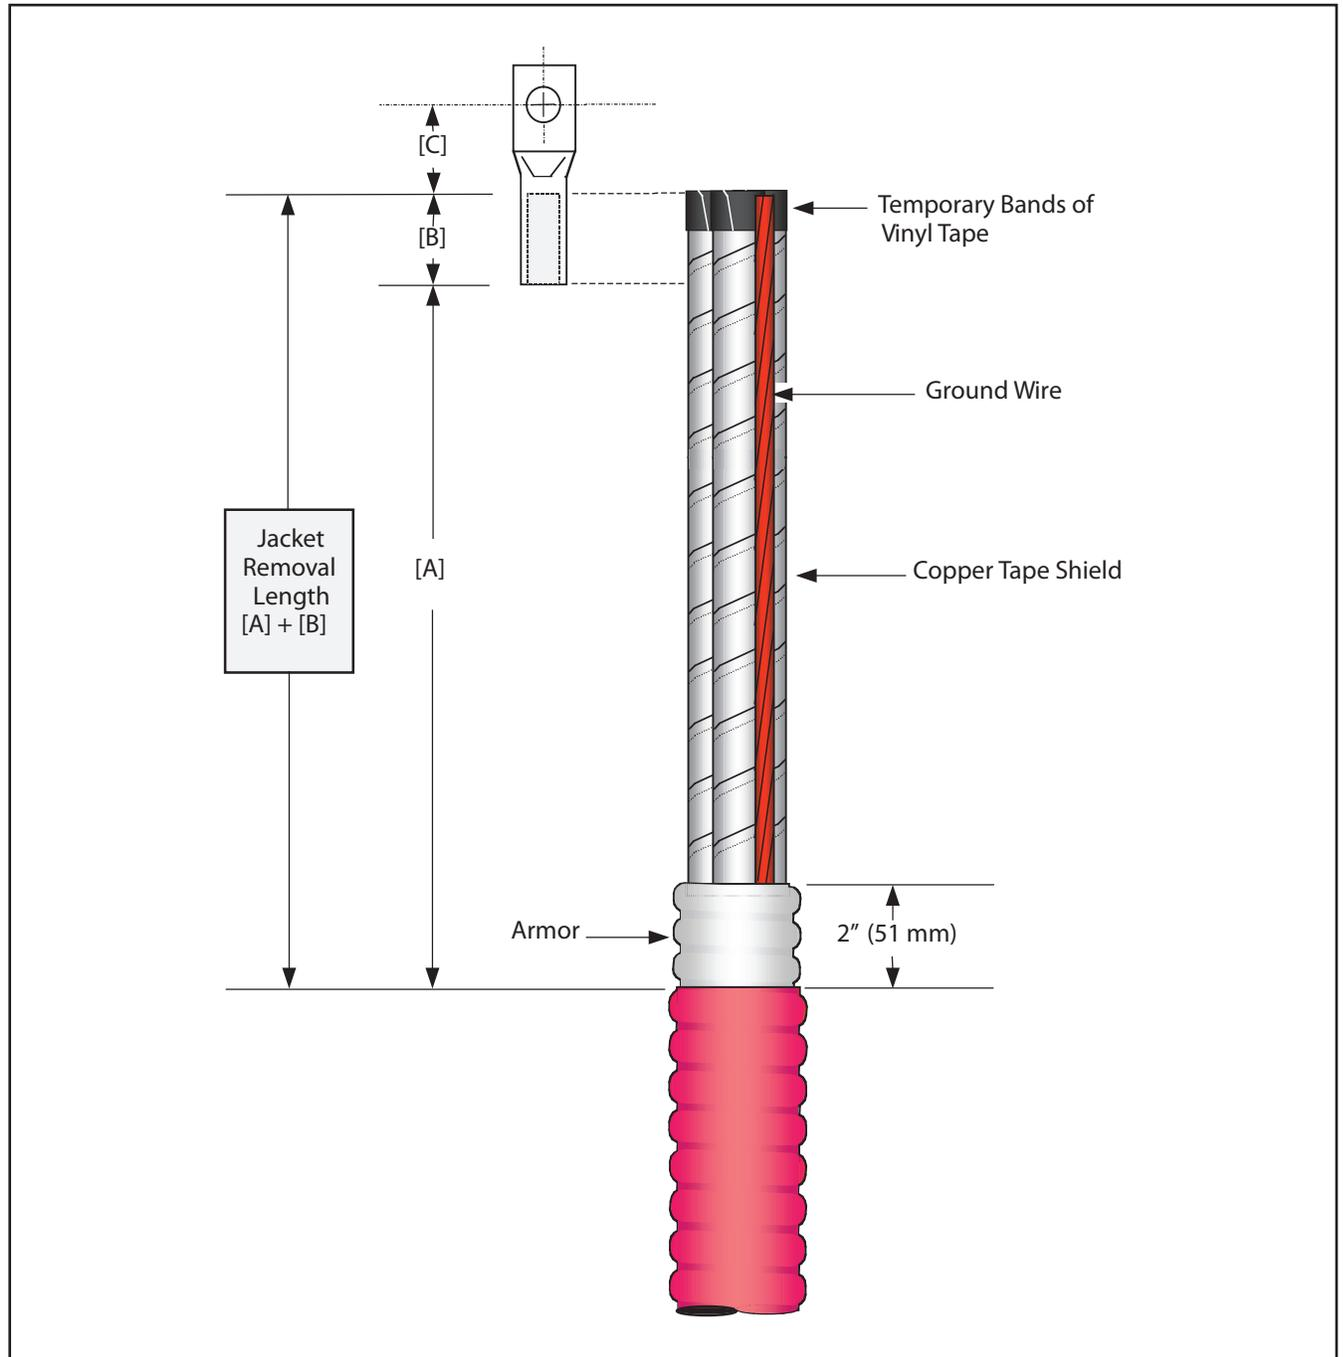

Figure 1
- 1.1 Determine cable jacket removal length required for correct phase spacing and bolted terminal lug connections ( $[A] + [B]$  Figure 1; based on the longest phase to be connected). Allow for dimension  $[C]$  as needed.
- 1.2 Remove cable jacket, armor, bedding (inner sheath) and core fillers according to Figure 1 dimensions. Secure each copper tape shield end with a temporary band of vinyl tape (Figure 1).